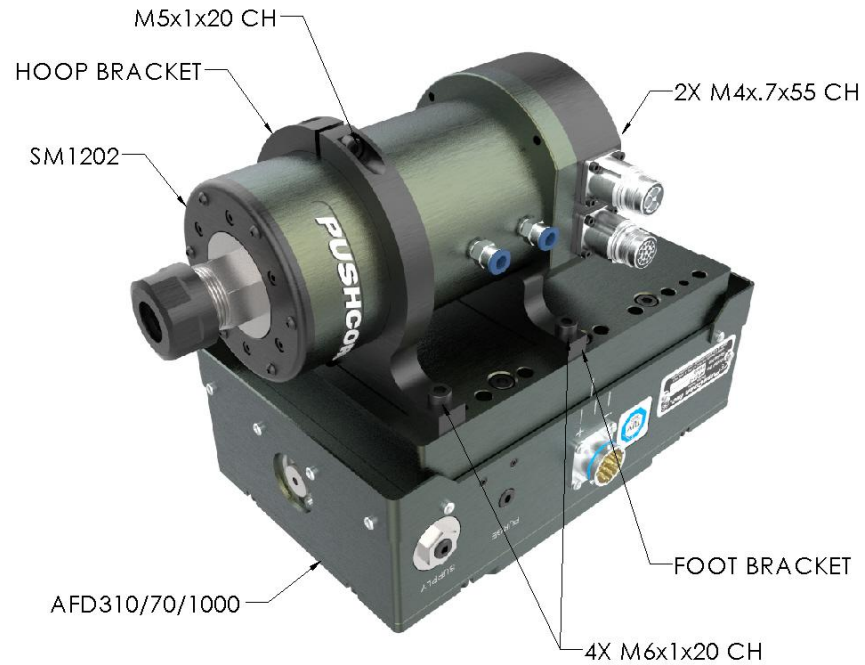

FIGURE 1: PARALLEL MOUNT
The parallel-axis configuration is shown in Figure 1, where the motor attaches to the AFD Carriage with a hoop bracket and foot bracket. The hoop bracket is positioned on the carriage and attached using the two (2) supplied M6x1x20mm socket head cap screws. The motor is then attached to the foot bracket, as shown, with two (2) M4x1x55mm socket head cap screws mounted at the front of the motor housing. The foot bracket is then mounted to the carriage via two (2) M6x1x20mm socket head cap screws. Finally, tighten the M5x.8x20 cap head screw at the top of the hoop bracket. The fasteners must be tightened to the torque specified in Section 4.0.